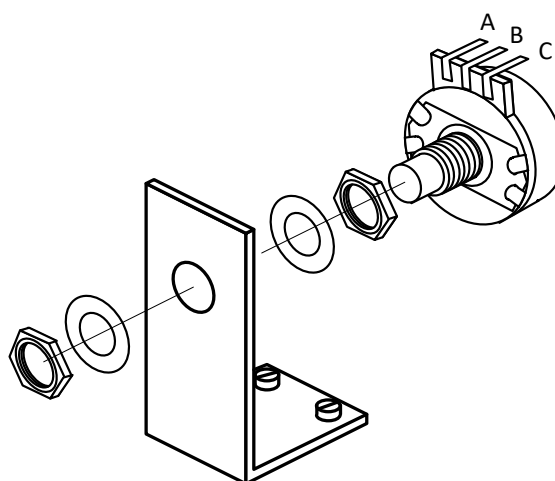

FIGURE 3
- ( ) Mount the two (2) 1 Meg volume controls, R1 and R12 in their respective brackets as shown in Fig. 3 using the supplied flat washers and hex nuts. Read the lugs A, B, and C in a clockwise direction while looking at the front of the volume controls as shown in Fig. 3.